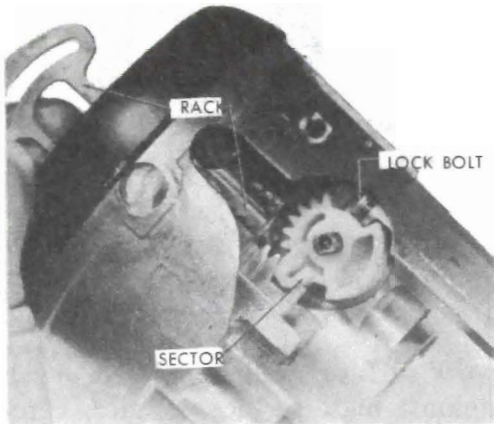

Figure 90-148 - Engaging Block Tooth on Rack to Sector
5. Install lock bolt and engage with sector cam surface. See Figure 90-148.